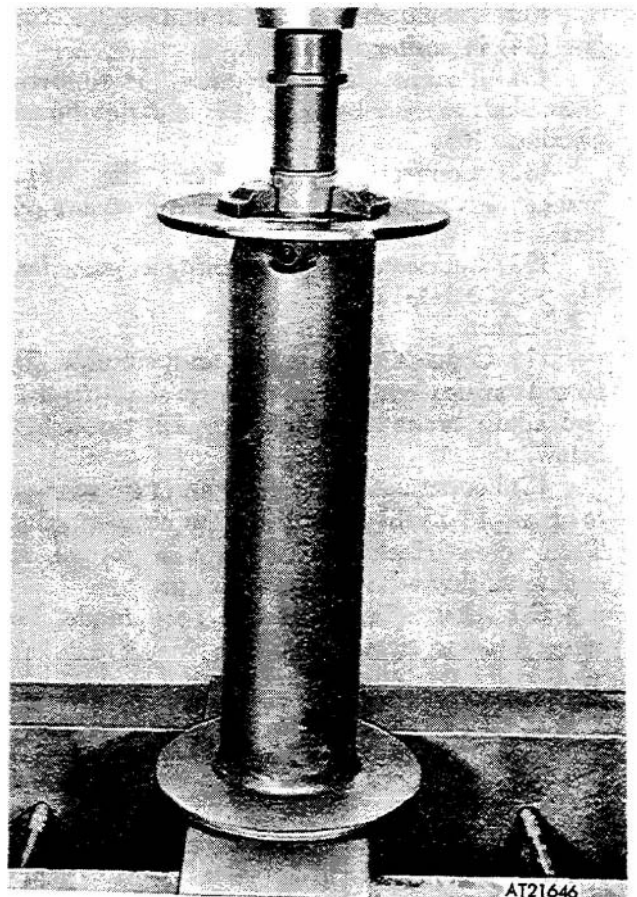

Figure 4-22. Pressing bushings into winch drum.
(19) Install bushings (1 and 4, fig 4-4) in drum (3) as shown in figure 4-22.